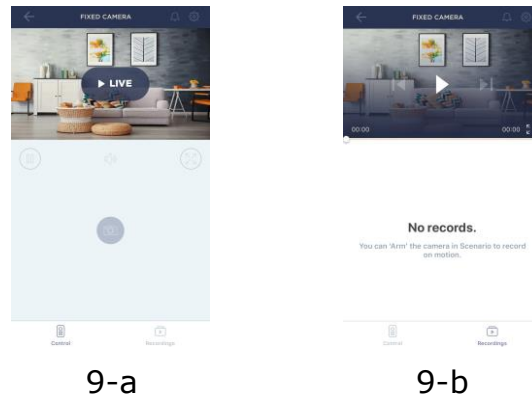

Figure 8 – Camera control panel
- **For existing Users:** After login to the Perenio Smart App User Account, click on the "+" icon in the upper right corner of the Devices tab, select "Add new device" and then the "Fixed Camera" device in the list (See Figure 8).